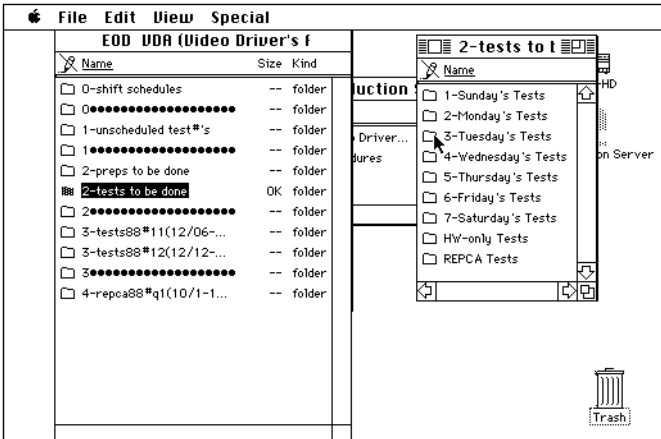

Figure 9
- Position the mouse pointer on the tests folder for the applicable day of the week and double click to open it (this example is for Tuesday). See Figure 9.